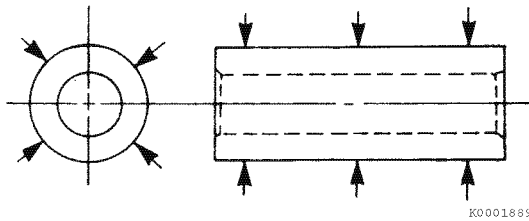

Figure 6-116
7. Measure the outside diameter of the wrist pin in three places and at 90° (Figure 6-116). See *Piston on page 6-13 for specifications*. Record the measurements.